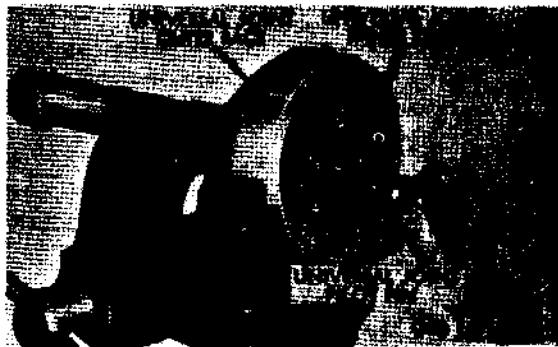

Figure 355. Removing pilot pin
- (5) Remove inner drive shaft from universal joint ball race. Remove inner drive shaft from universal joint ball race. Remove retaining ring and ball retainer from inner drive shaft.
- (6) Remove pilot pin. Withdraw pilot pin (fig. 355) from universal joint bell.